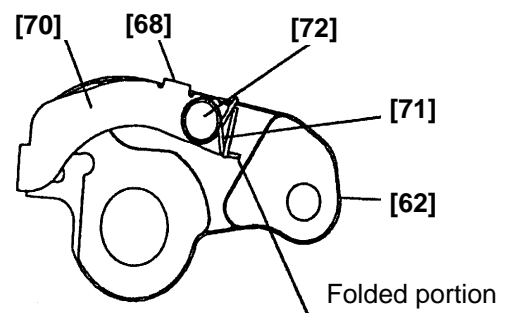
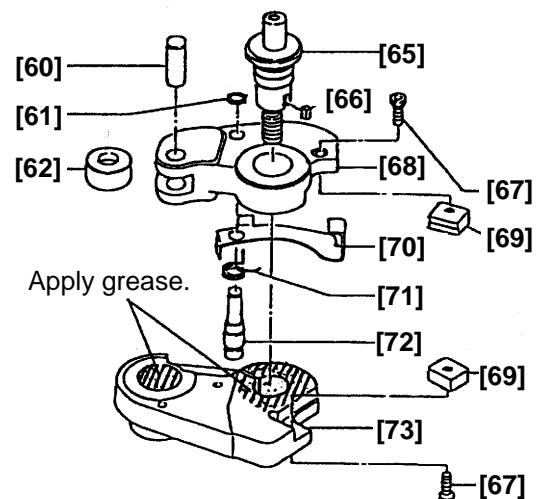

Fig. 23
Fig. 24
(2) Reassembly of bracket (A) unit (Fig. 23)
Mount Bracket (A) [68] to Spring (C) [71] so that the folded portion of Spring (C) [71] securely fits in the notch of the Cutter Guard [70] (Fig. 23). Apply grease (TUFREX 251) to the hole of Roller (C) [62] adequately (Fig. 24).
(3) Reassembly of bracket (A) and (B) unit (Fig. 24)
Mount the Bolt (A) [65] to Bracket (A) [68]. Apply grease (TUFREX 251) to the shaded areas shown in Fig. 24 adequately. Mount the Feather Key [66] to Bracket (A) [68] and press-fit it to Bracket (B) [73].